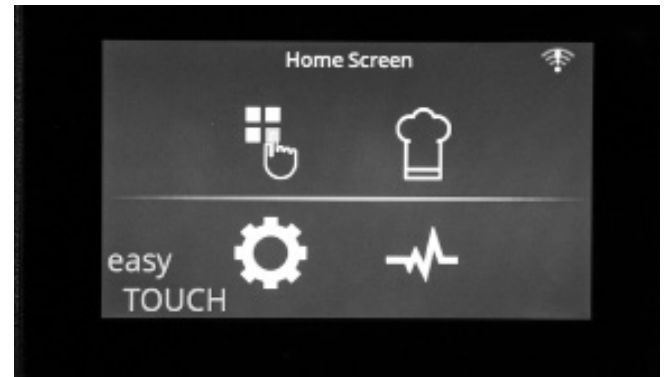
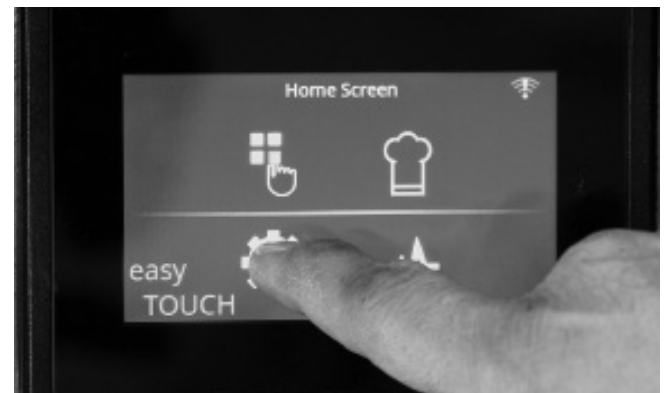

Figure 12
Figure 13
1. Press the Cog or Settings mode button on the Home screen. (Figure 13 and Figure 12)